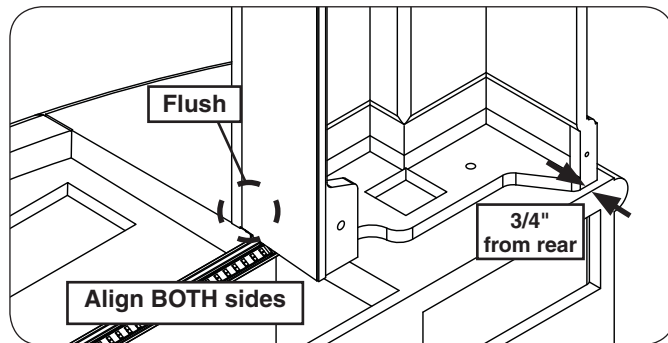

Fig. 20-1 Align top over hearth
- The rear of the top piece must be  $\frac{3}{4}$ " from the rear edge of the hearth (see Fig. 20-1).
- The interior of the top piece must be flush with the hearth (see Fig. 20-1).